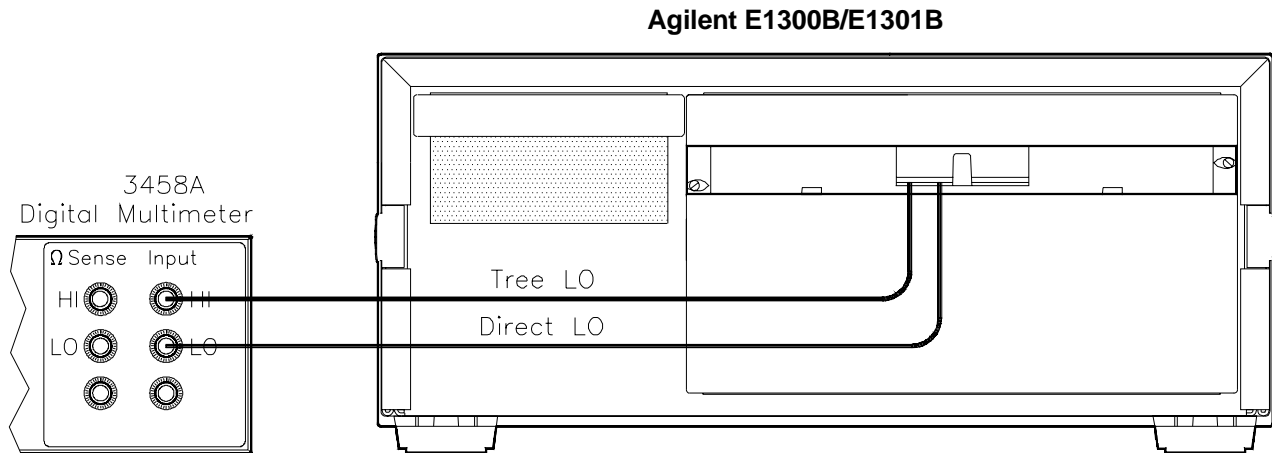

Figure 2-5. Tree LO Resistance Test Connections
- Connect DMM as shown in Figure 2-5